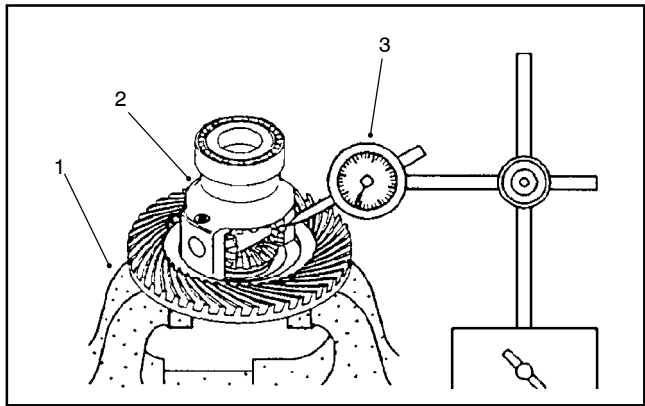

Figure 35
5. Secure the differential case in a soft jawed vise. Position a dial indicator on a tooth of the differential pinion gear. Press the pinion and side gear against the differential case and measure the pinion gear to side gear backlash (Fig. 35).